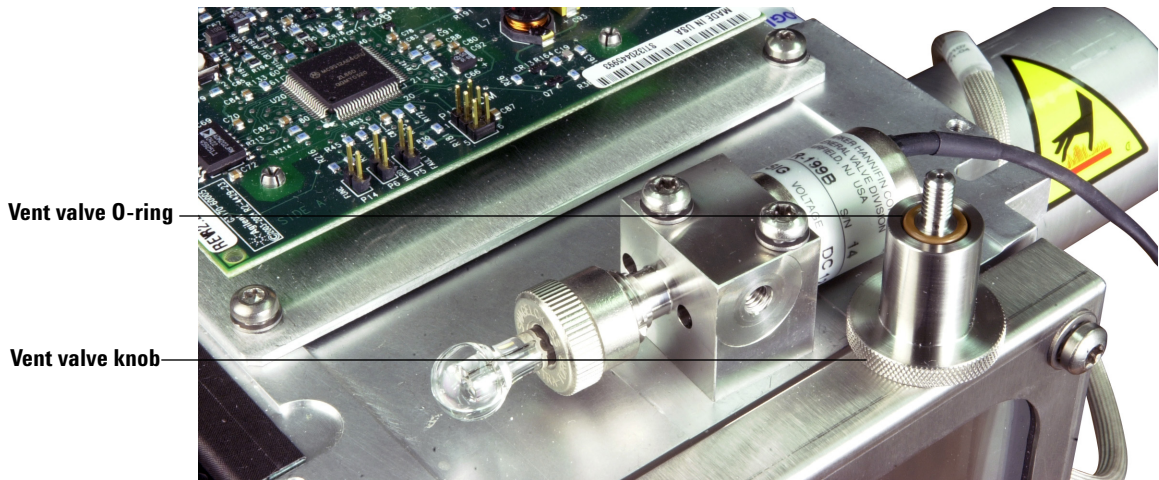

Figure 16 Vent valve O-ring
- 2 Completely remove the vent valve knob (Figure 16).